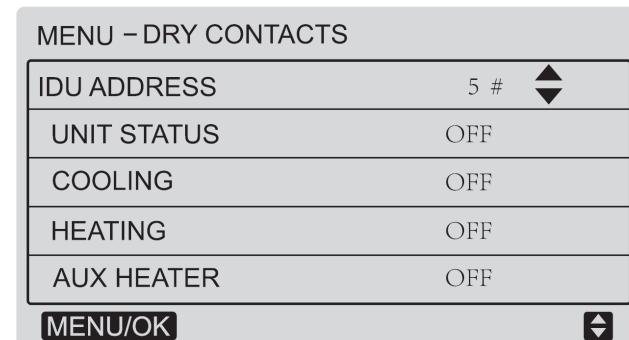

**Fig. 50 — Error Codes Display**
**VIEWING RECORDED ERROR CODES** — Choose ERROR CODE, and press MENU/OK OK to enter this setting. Figure 50 shows a display of the error codes menu.